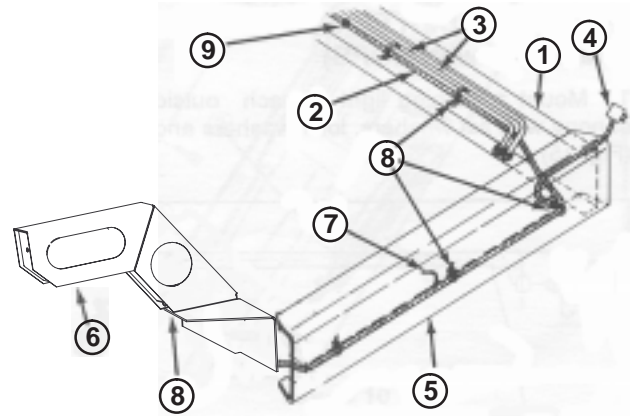

Figure 19
1. Connect taillight wire assembly connector to main wire harness in rear right hand frame channel (Fig. 19).
2. Connect the right hand harness connector to the right hand taillight assembly connector (Fig. 19).
3. Connect the left hand harness connector to the left hand taillight assembly connector (Fig. 19).
4. Install a cable tie through the holes in each arm and secure the harness to the arms (Fig. 19).
Note: An extra brown lead with connector is included for connection to a license plate light, if required (Fig. 19).
5. Insert cable ties through the drilled holes in the rear bumper and secure the taillight wire harness to the bumper (Fig. 19).